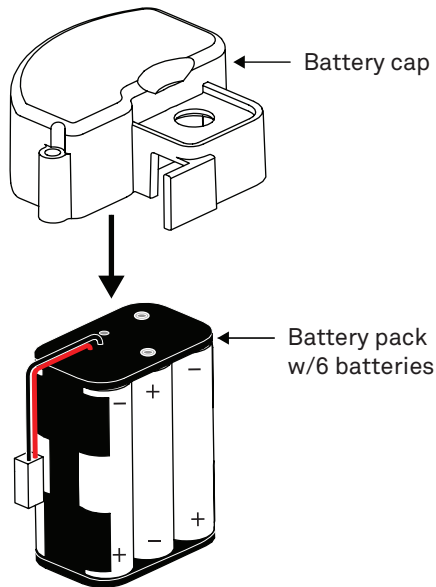

Figure 25 Battery pack removed from cap
5. Slide the battery pack out of the battery cap (Figure 25).